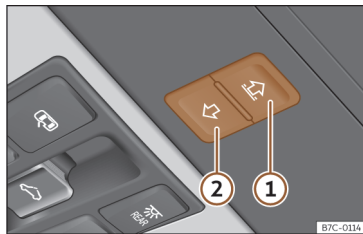

Fig. 63 On the interior roof lining: function button to operate the sun blind.
- If it still cannot be closed, within 5 seconds press the button >>> Fig. 63 ② until the blind closes fully. **The blind closes without the intervention of the anti-trap function!**